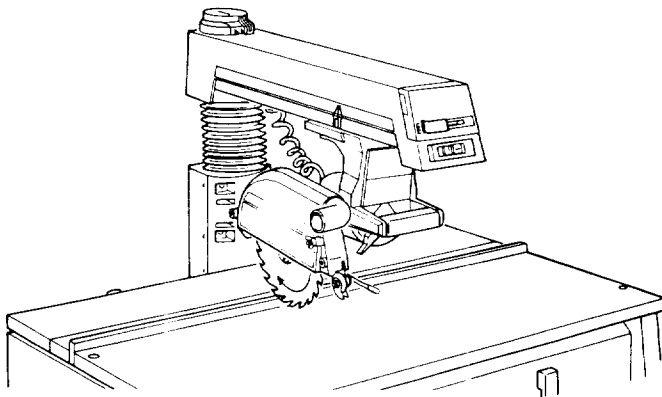

Fig. 84
2. Place the *guard* over the *blade*. You will feel the *guard* fall into place when the ridge on the inside of the *guard* slides into the slot on the *motor*. (Figure 84)